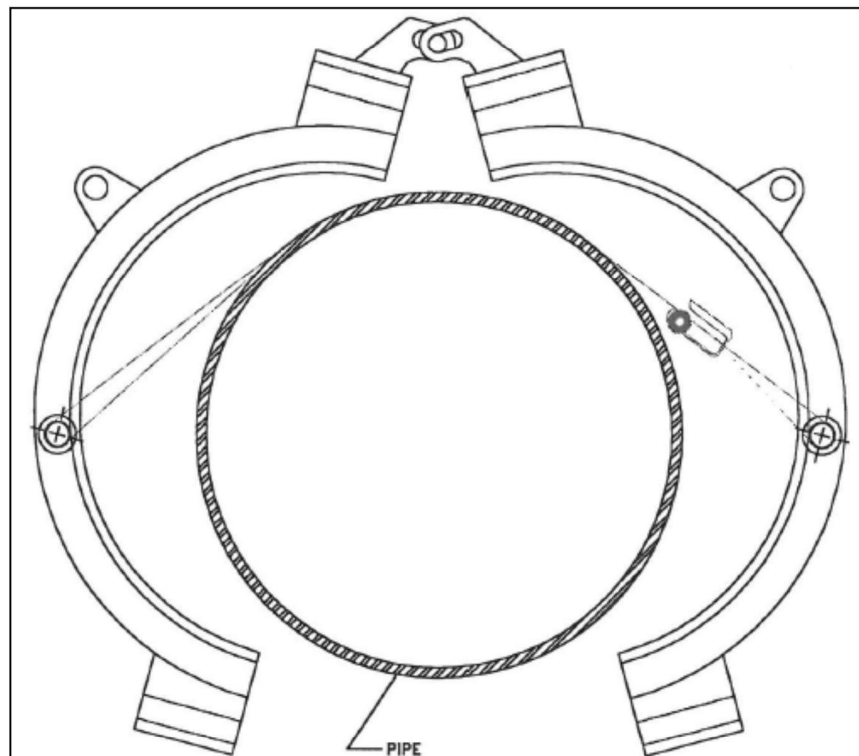
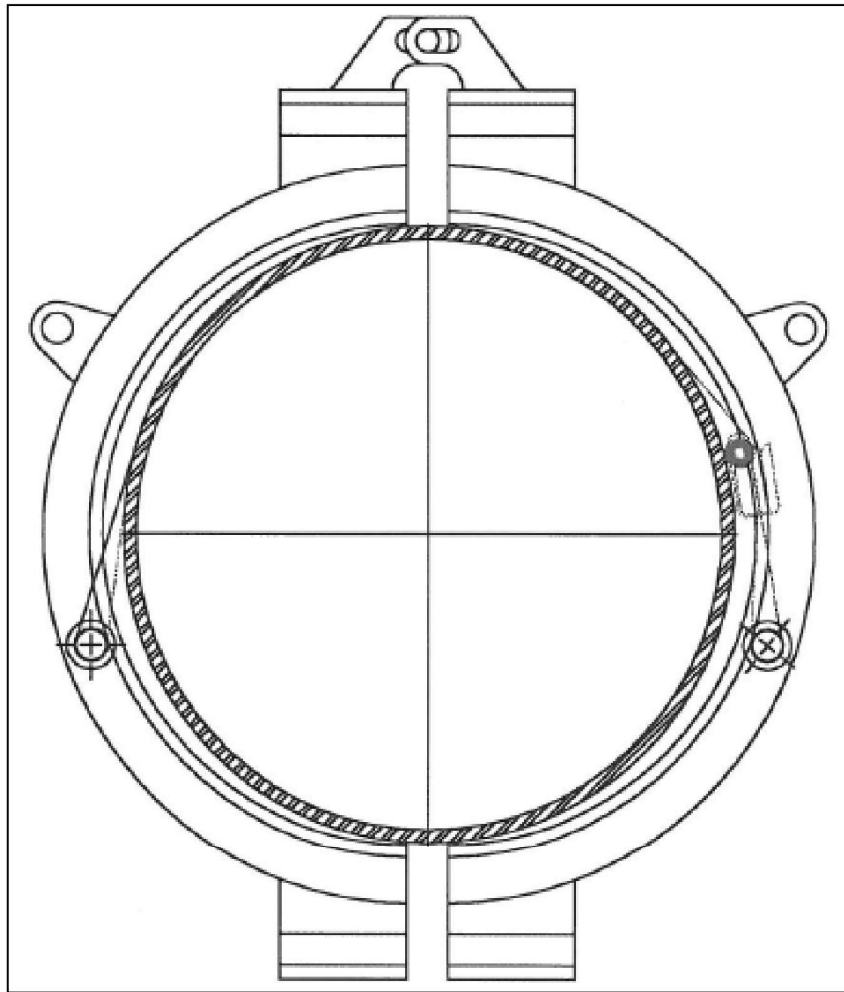

Figure 6
Figure 7
8. Lower the hinged assembly onto the pipe when the Split+Sleeves is configured as shown in Figure 6. The slings will contact the pipe first and cause the hinged assembly to close around the pipe as shown in Figure 6 and Figure 7.